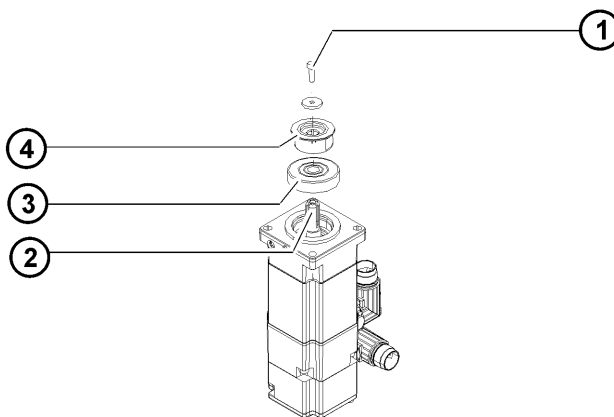

Fig. 11-27: Motor with toothed belt pinion
- Remove all protective coatings and oil from new motor A6 (>>> Fig. 11-27), if applicable.